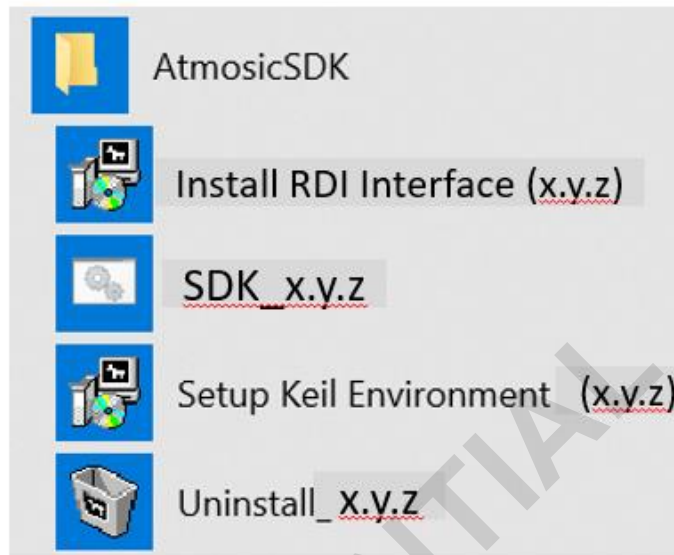

Figure 11 - SDK in Start Menu
- Figure 11 - SDK in Start Menu
The Installer will create a folder named AtmosicSDK in “Start Menu” as shown in Figure 11 during the installation process.